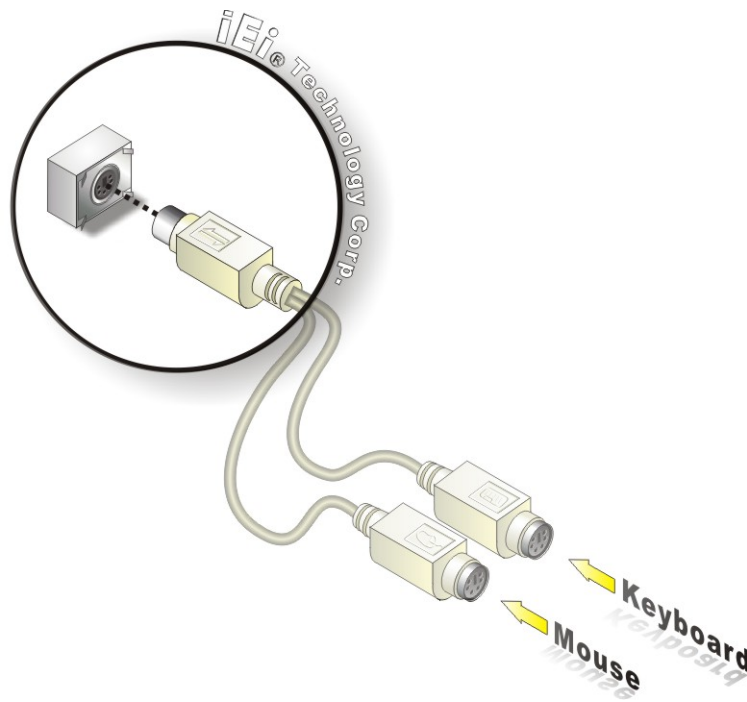

Figure 4-29: PS/2 Keyboard/Mouse Connector
Step 2: **Insert the keyboard/mouse connector.** Insert the PS/2 connector on the end of the PS/2 y-cable into the external PS/2 connector. See Figure 4-29.